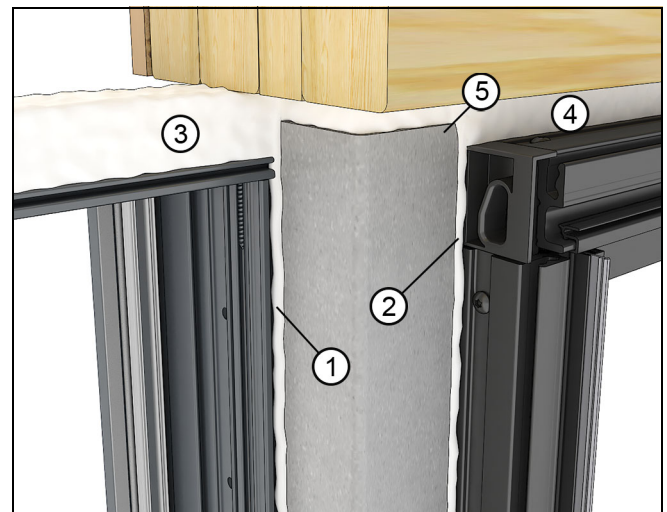

Figure 12 Direct Glaze to Multi-slide shown
2. For best water management, create a continuous interior air seal at the sides and head jamb. The seal at the mull must be a continuous, three dimensional seal on the same plane. See Figure 12.